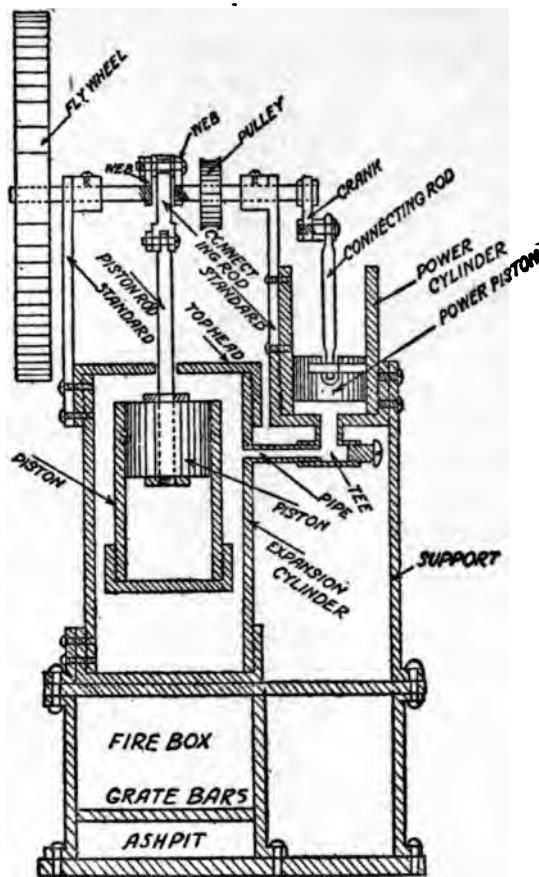

FIG. 55.—CROSS SECTION OF A HOT AIR ENGINE
ards, on which it is mounted, and (9) the *fire box*, all of which are shown in the cross section view in Fig. 55.